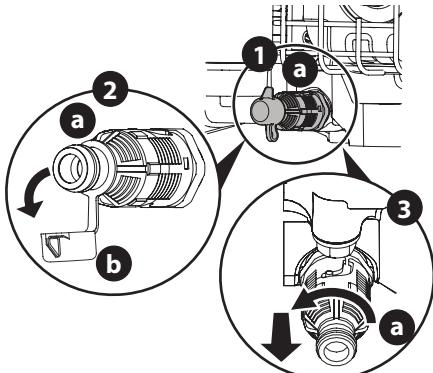

Figure 5
1. Unscrew a 1/4 turn and remove the thumb screws (a) (Figure 5).